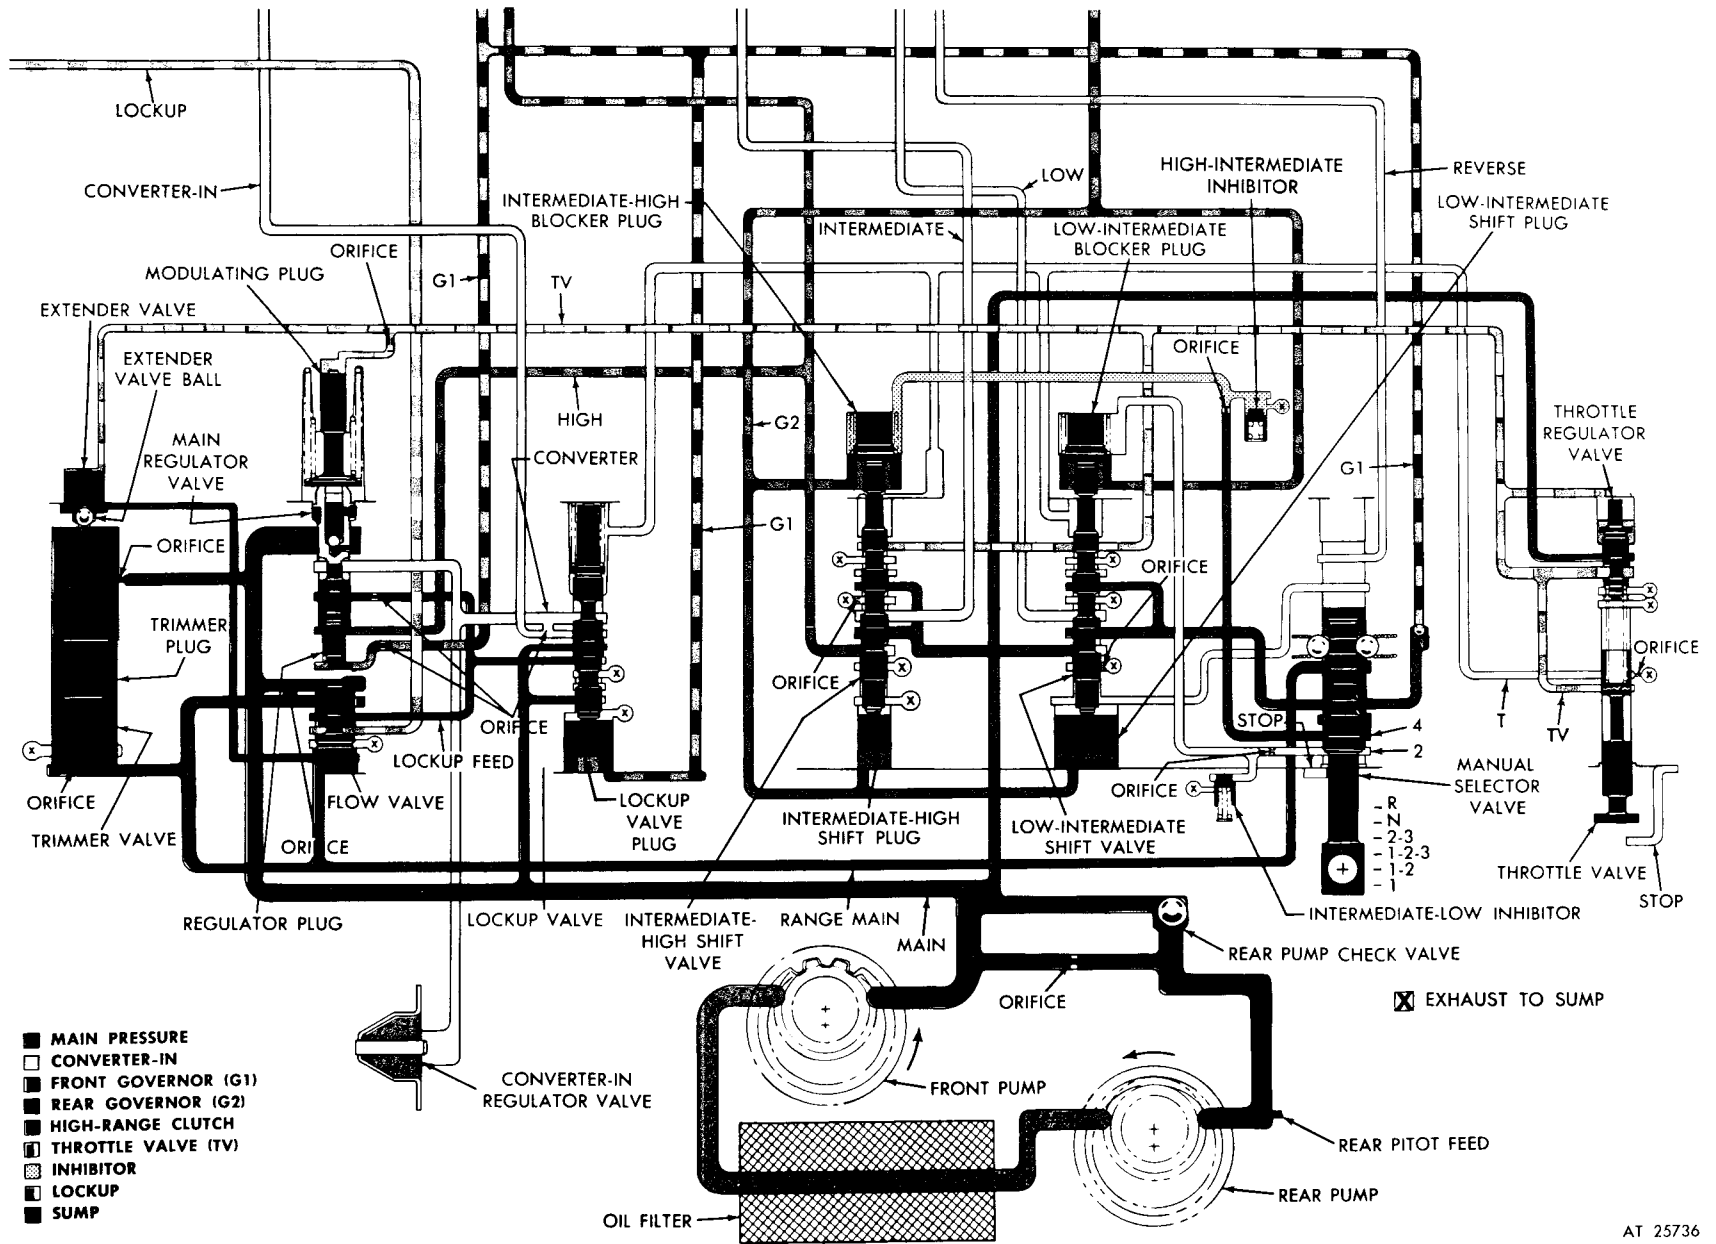

Figure 2-9. Hydraulic system, high-intermediate inhibitor acting—schematic view.
a. Inhibitor Prevents 3-2 Downshift at Excessive Speed (fig. 2-9).
(1) Figure 2-9 illustrates the hydraulic system in high-range operation even though the manual selector has been moved to a position which does not indicate high-range operation. This condition results when vehicle (transmission output) speed is too great for safe operation in intermediate-range at the time a manual downshift is made.
(2) When the manual downshift is made, rear governor (G2) pressure is sufficient to continue holding the intermediate-high shift plug, shift valve, and blocker plug upward against spring force and inhibitor pressure. This extends high-range operation of the transmission during the period the vehicle is moving at excessive speed.
(3) When vehicle speed decreases, G2 pressure also decreases. When G2 pressure falls to a value which will no longer hold the intermediate-high shift plug and valve upward against spring force
b. Other Functions Same as 1-2-3 Operation (fig. 2-9). In high-range operation (selector at 1-2 position), the circuits not involved in action of the high-intermediate inhibitor operate as described in paragraph 2-17 for high-range (1-2-3) operation.